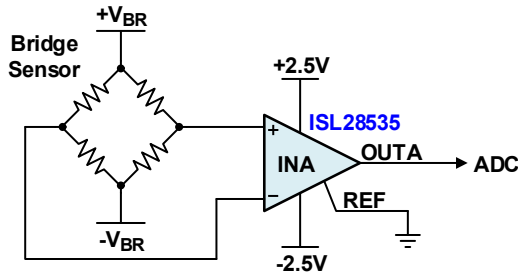
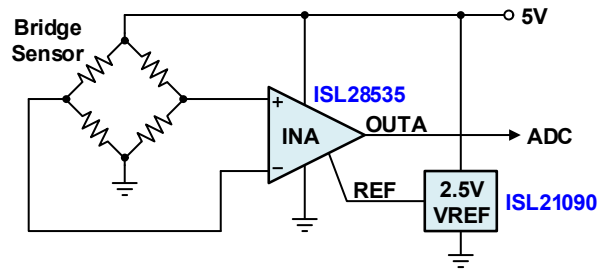

Figure 7. In a Dual-Supply Design Connect REF to GND
Figure 8. In a Single-Supply Design Make  $V_{REF} = V_{CC}/2$
In dual supply applications, REF is usually connected to ground (Figure 7). In a single-supply design however,  $V_{REF}$  should be set to  $V_{CC}/2$  to allow for a symmetrical output swing of  $V_{OUTA}$  (Figure 8).
**Note:** For clarity, any decoupling capacitors have been omitted. With regards to Figure 8, some applications show the output of a voltage reference IC (VREF) buffered by an op-amp. This is usually not necessary but only required if the reference circuit lacks current drive or the capability of sinking current. VREFs are specially designed to provide a stable, low-noise voltage source with low source impedance.
In the standard single-supply configuration of Figure 8, the output voltage of the INA is